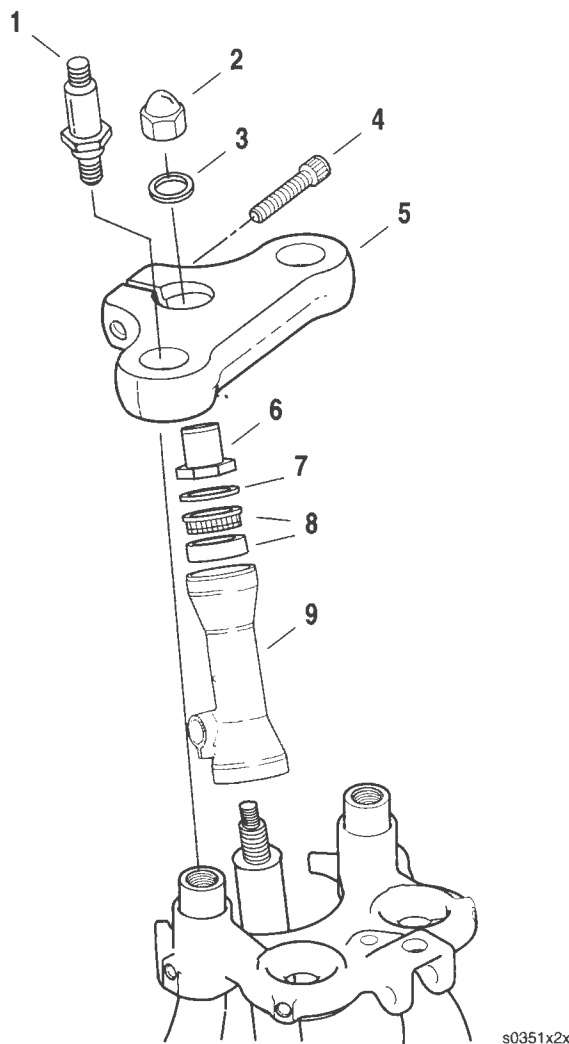

Figure 2-94. Steering Head/Fork Stem Assembly
6. See Figure 2-94. Remove fork stem acorn nut (2) and rubber washer (3). Loosen the upper triple clamp pinch bolt (4).
7. Remove the rigid fork leg studs (1).
8. Remove upper triple clamp (5).
9. Remove hex bearing retainer (6) and dust shield (7).
2. See Figure 2-94. Install upper dust shield (7) and hex bearing retainer (6).
3. Seat steering head bearing by tightening bearing retainer (6) to 40 ft-lbs (54.2 Nm). Loosen and then re-torque bearing retainer to 72 **in-lbs** (8.1 Nm).
4. Place upper triple clamp (5) in position on stem and rigid fork legs.